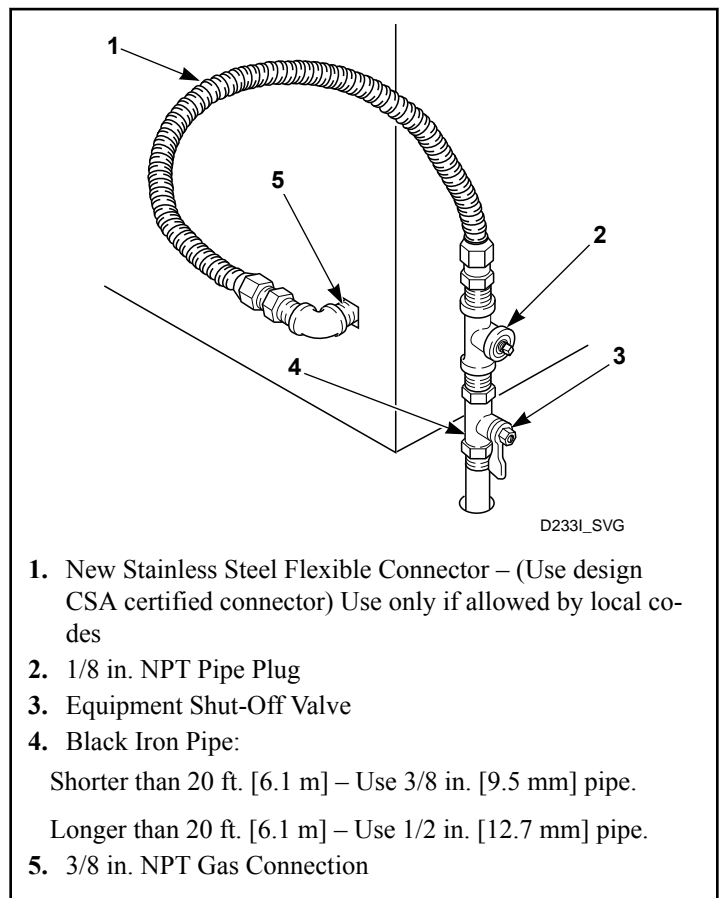

Figure 11
**NOTE: When connecting to a gas line, an equipment shut-off valve must be installed within 6 feet [1.8 m] of the dryer. An 1/8 in. NPT pipe plug must be installed as shown for checking inlet pressure. Refer to *Figure 11*.**